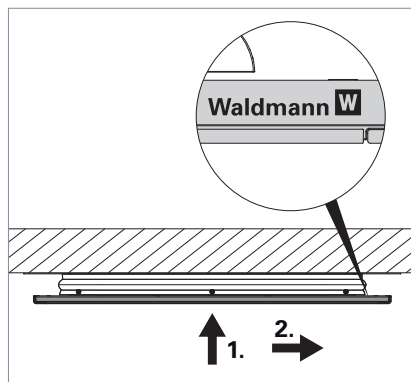

Fig. 12: Removing the direct light element.
- ▶ Position yourself so that you can see the Waldmann logo, see Fig. 12.